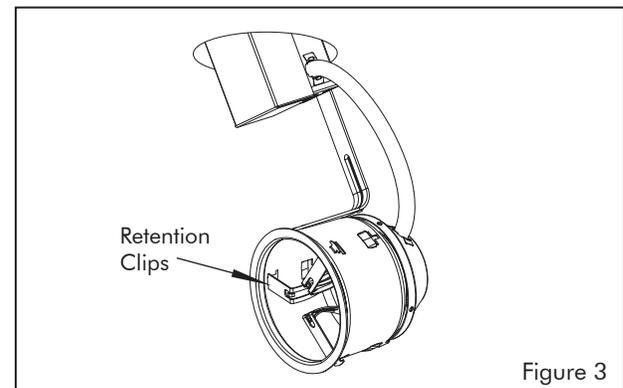

Figure 3
10. Press housing through ceiling opening so it is flush to the finish material (see figure 3).